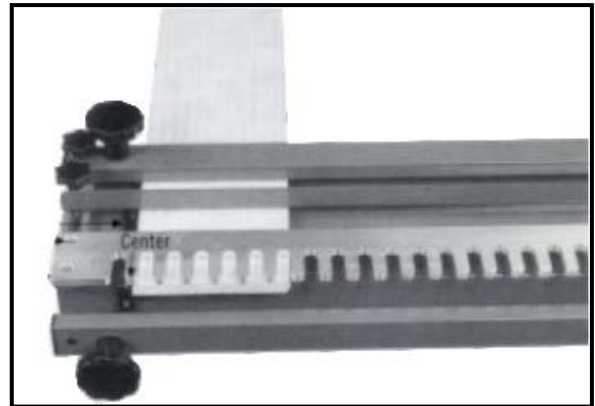

Figure-3
2. Slide the work piece marked "Front" or "Back" under the top clamping assembly and tighten the knob. The side marked inside should face up. See Figure-3